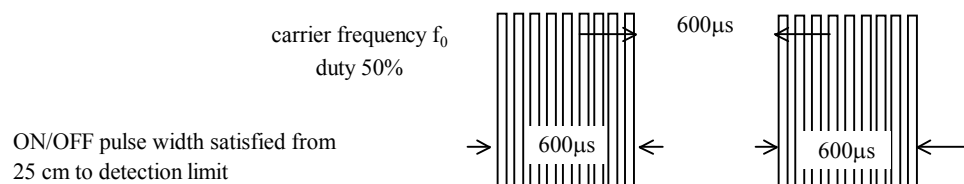

Fig 1. Burst Wave
- (1) Measuring place Indoor without extreme reflection of light.
- (2) Ambient light source... Detecting surface illumination shall be 200±50Lux under ordinary white fluorescence lamp of no high frequency lighting.
- (3) Standard transmitter ... Burst wave indicated in Fig 1. of standard transmitter shall be arranged to 50mVp-p under the measuring circuit specified in Fig 2.